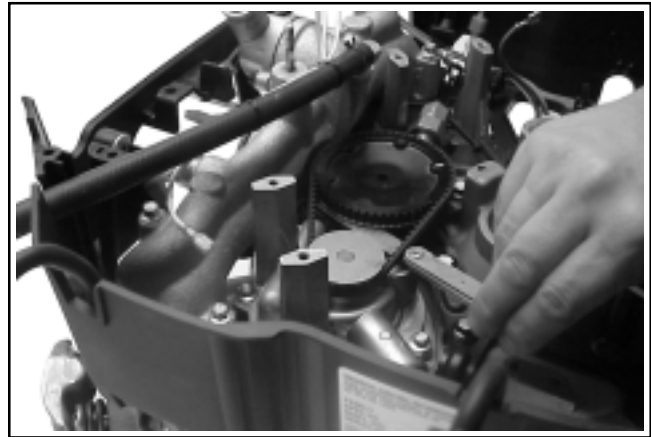
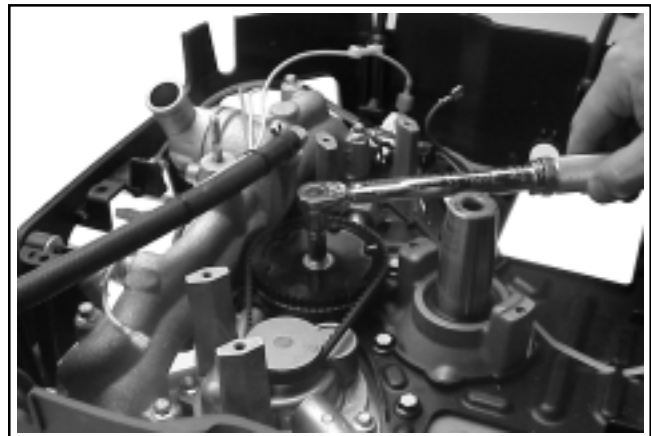

Figure 11-68. Checking Clearance of Pulley with Feeler Gauge.
Figure 11-69. Torquing Mounting Screw of Cam Pulley.
11. Check that there is at least **3 mm (1/8 in.)** clearance between the underside of the pulley, and the hose, tube, clamp assembly. See Figure 11-68. Remove the pulley and reposition the tube or clamps if required. Install the flat washer and hex. flange screw to secure the pulley in place. Torque the screw to **9.9 N·m (88 in. lb.)**. See Figure 11-69.